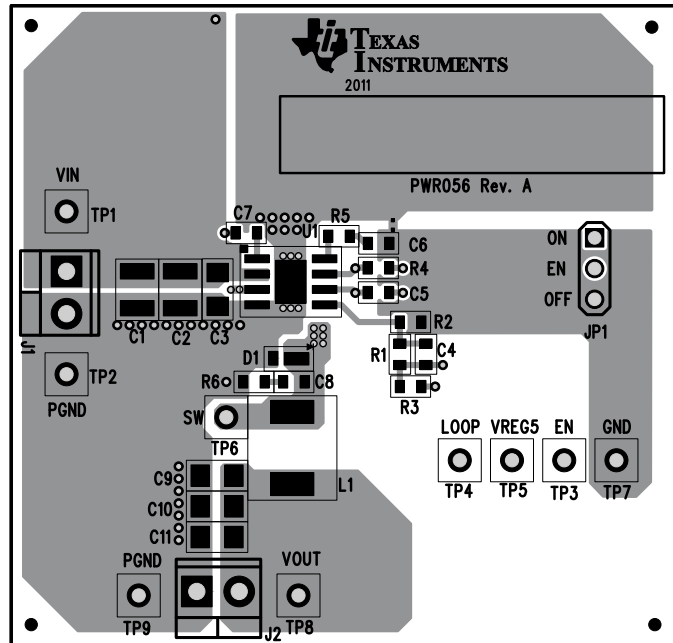
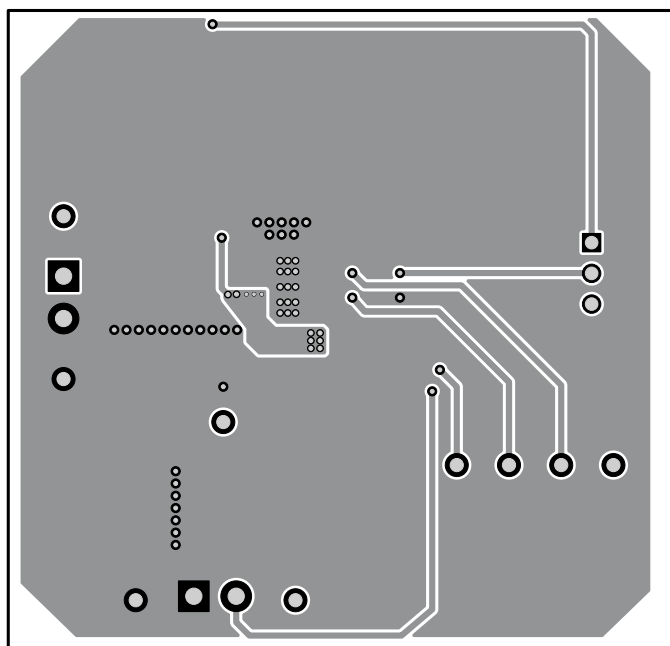

Figure 5-1. Top Assembly
Figure 5-5. Bottom Layer
The board layout for the TPS54239EVM-056 is shown in Figure 5-1 through Figure 5-5. The top layer contains the main power traces for VIN, VO, and ground. Also on the top layer are connections for the pins of the TPS54239 and a large area filled with ground. Many of the signal traces also are located on the top side. The input decoupling capacitors are located as close to the IC as possible. The input and output connectors, test points, and all of the components are located on the top side. An analog ground (GND) area is provided on the top side. Analog ground (GND) and power ground (PGND) are connected at a single point on the top layer near C6. The two internal layers are completely dedicated to power ground planes. The bottom layer is primarily power ground. A copper pour area on the bottom layer is used to connect the switching node (SW) to the output inductor and the boost capacitor. Traces also connect enable control jumper, EN, VREG5, and LOOP test points, and the feedback trace from VOUT to the voltage setpoint divider network.